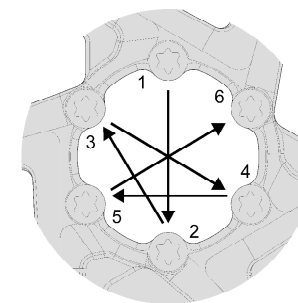

Fig. 3
6. Tighten the disc screws (x6) in a star pattern to 6 Nm. (Fig 3)